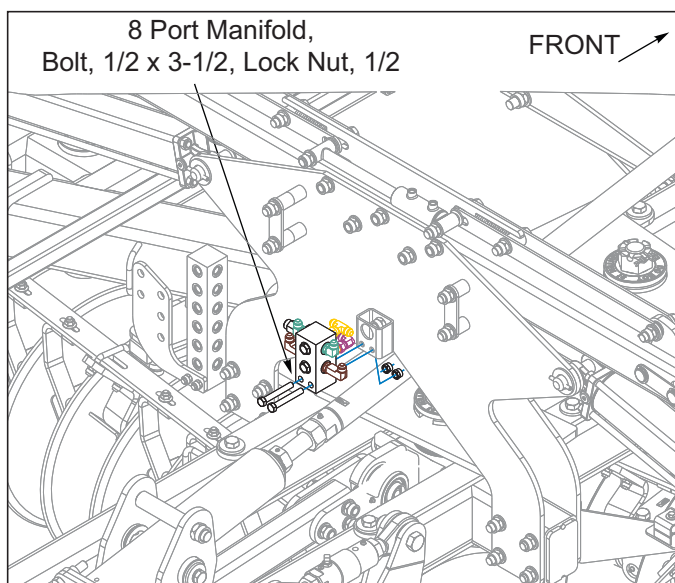

Figure 3-11: 8 Port Manifold 7531-32'-35'
6. Models 7531-32'-35' install the 8 port manifold, bulkhead mount in position shown, See Figure 3-11, using 1/2 x 4 bolts and 1/2 lock nuts.